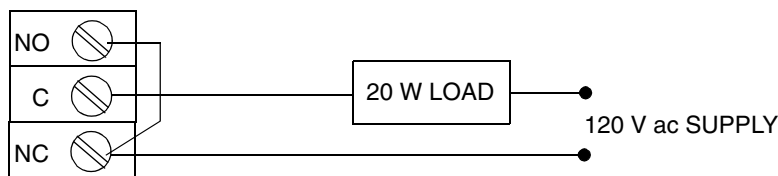

Figure 14. Alarm Contact Reconditioning Circuit
2. Connect a load of 20 W or more as shown in Figure 14 so that both NO and NC contacts are exercised.